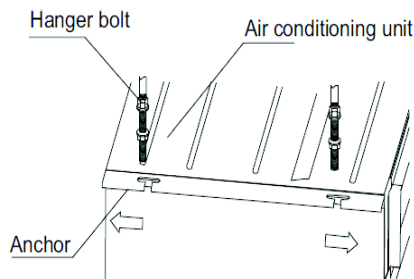

Fig. 4 – Install the Hanger Bolts
1. **INSTALLING HANGER BOLTS** – Install the hanger bolts at the locations (see Fig. 4, top view). Use  $\text{Ø}10 / \text{Ø}0.394\text{in}$  all-threaded rod.